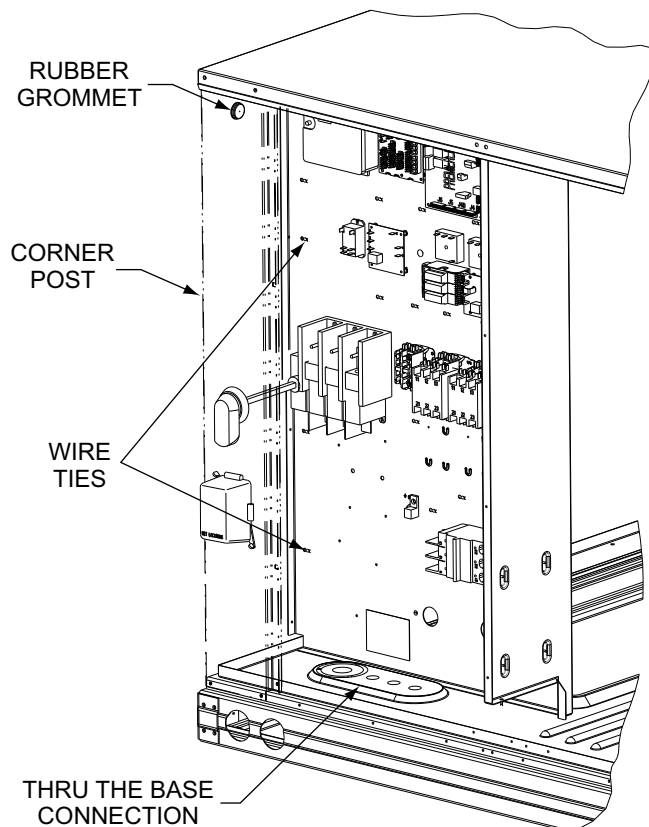

Fig. 49 — Field Control Wiring Raceway
2. Feed wires through the raceway built into the corner post (see Fig. 49) to the 24-v barrier located on the left side of the control box. The raceway provides the UL-required clearance between high-voltage and low-voltage wiring.